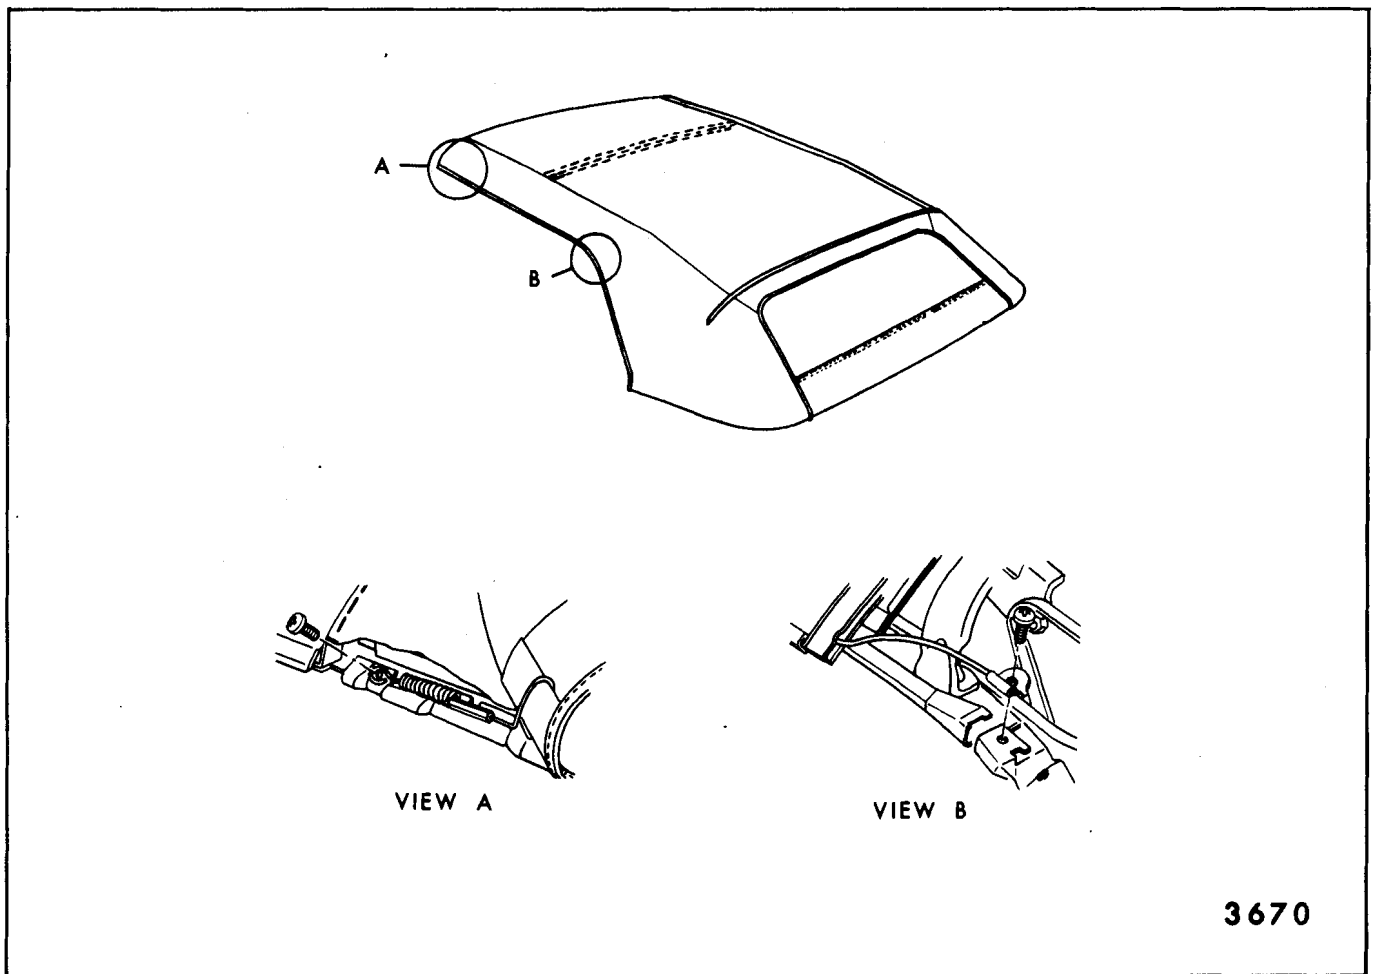

Fig. 12-2-Hold Down Cable Attachment
7. With front roof rail raised several inches off windshield header, remove attaching screws from front and rear of each hold-down cable and remove cables (Views "A" and "B" in Fig. 12-2).
pocket. Install attaching screw at rear of cable. Then, apply forward pull on cable and install front attaching screw (Fig. 12-2).
7. With front roof rail several inches off windshield header, remove attaching screws from front and rear of each hold-down cable and remove cables (Views "A" and "B" in Fig. 12-2).